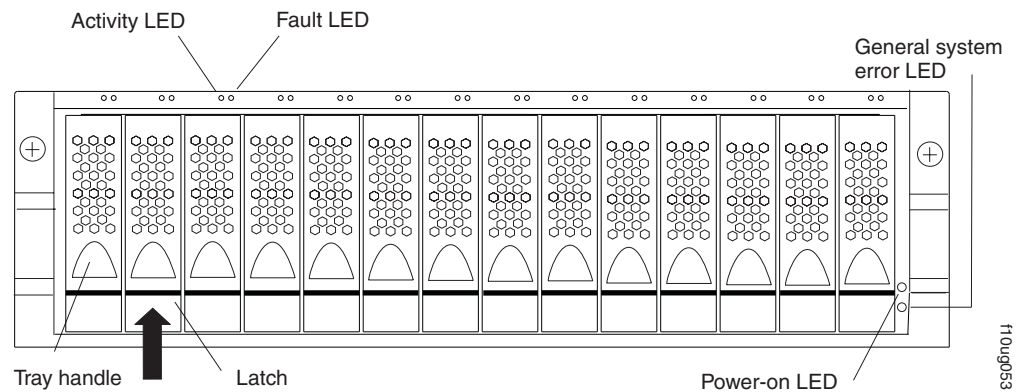

Figure 55. Hot-swap hard disk drive LEDs
2. Check for Fault LEDs shown in Figure 55. If any amber LEDs are lit, see Chapter 6, "Hardware maintenance," on page 95.
- a. Release the latch on the drive CRU by pinching together the blue line on the tray latch and the finger hole on the tray handle, as shown by the arrow in Figure 55.